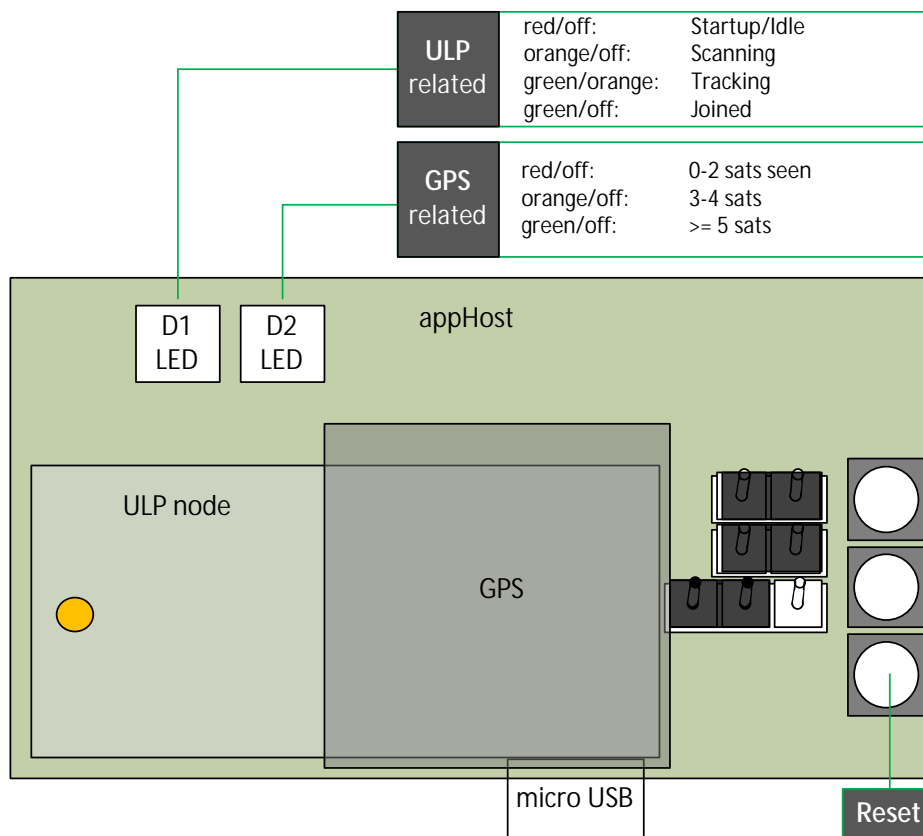
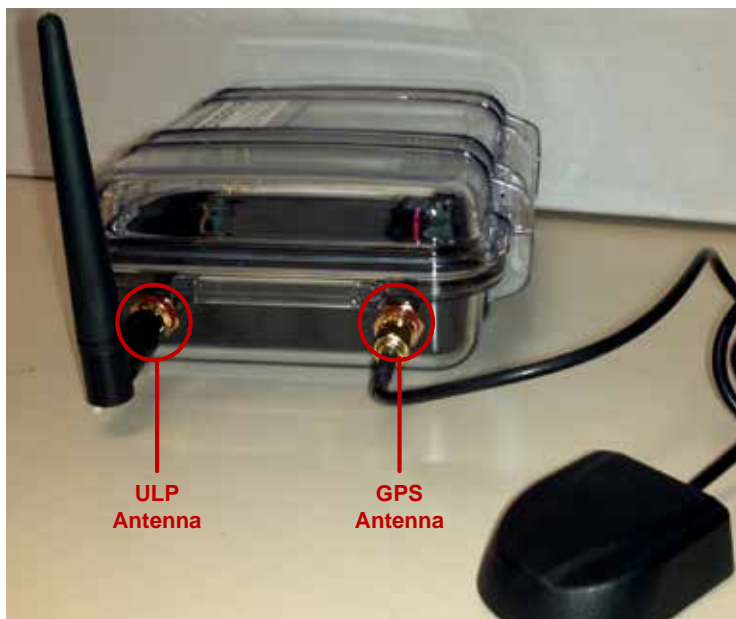

Figure 4. ULP Tracker and appHost Status LEDs
Figure 5. Installation Location of ULP and GPS Antennas
1. Attach the ULP “Rubber Duck” antenna to the RP-SMA connector as shown in the Figure 5.
Status LEDs provide feedback on the current state of the ULP communications link and the GPS receiver as illustrated in Figure 4. In general, normal operation consists of cycling through the startup, scanning, tracking colors, and GPS satellite acquisition colors until both LEDs are flashing green. This process could take one or two minutes. When both LEDs are flashing green, the ULP Tracker begins transmitting location through the ULP network to the head-end application. If the optional external GPS antenna is used, install it as shown in Figure 5.